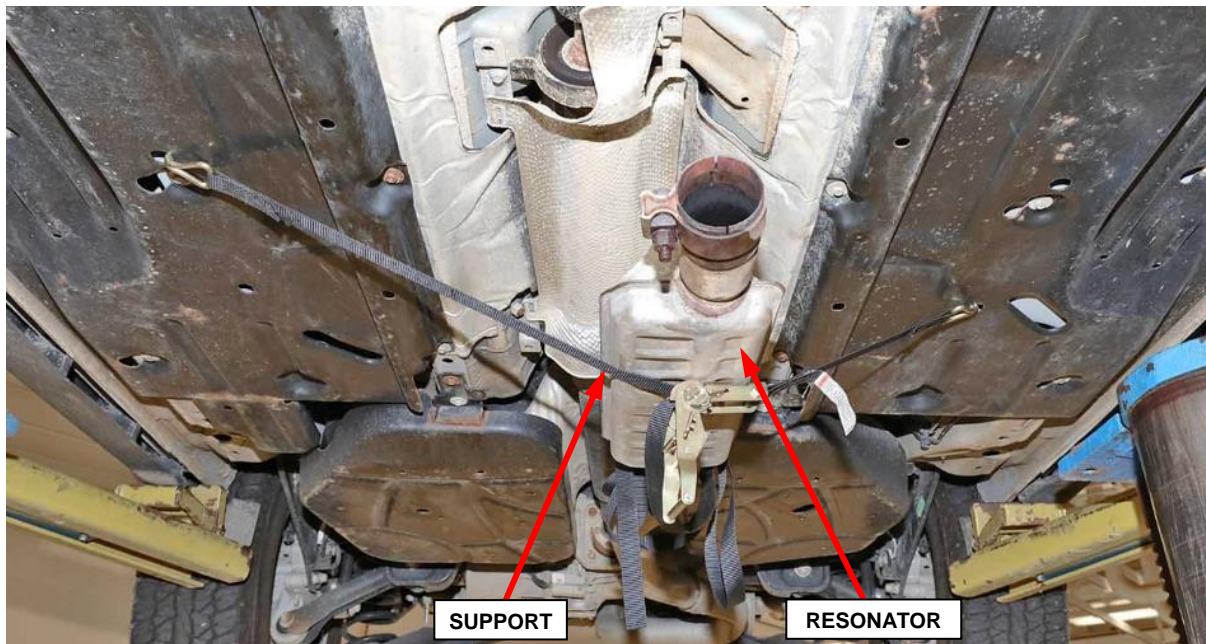

Figure 54 – Support Exhaust
- f. Support the exhaust system resonator (Figure 54).